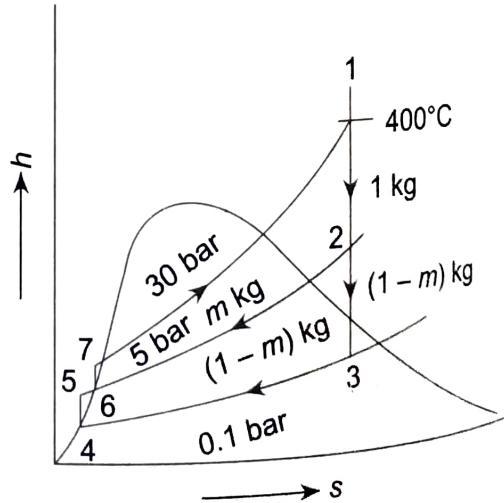

Fig. 12.47
**(M) Example 12.8** In a single-heater regenerative cycle, the steam enters the turbine at 30 bar, 400°C and the exhaust pressure is 0.1 bar. The feedwater heater is a direct-contact type which operates at 5 bar. Find (a) the increase in mean temperature of heat addition, efficiency and steam rate, as compared to the Rankine cycle (without regeneration). Neglect pump work.
**Solution** Figure 12.47 gives the flow, T-s and h-s diagrams. From the steam tables, the property values at various states have been obtained.